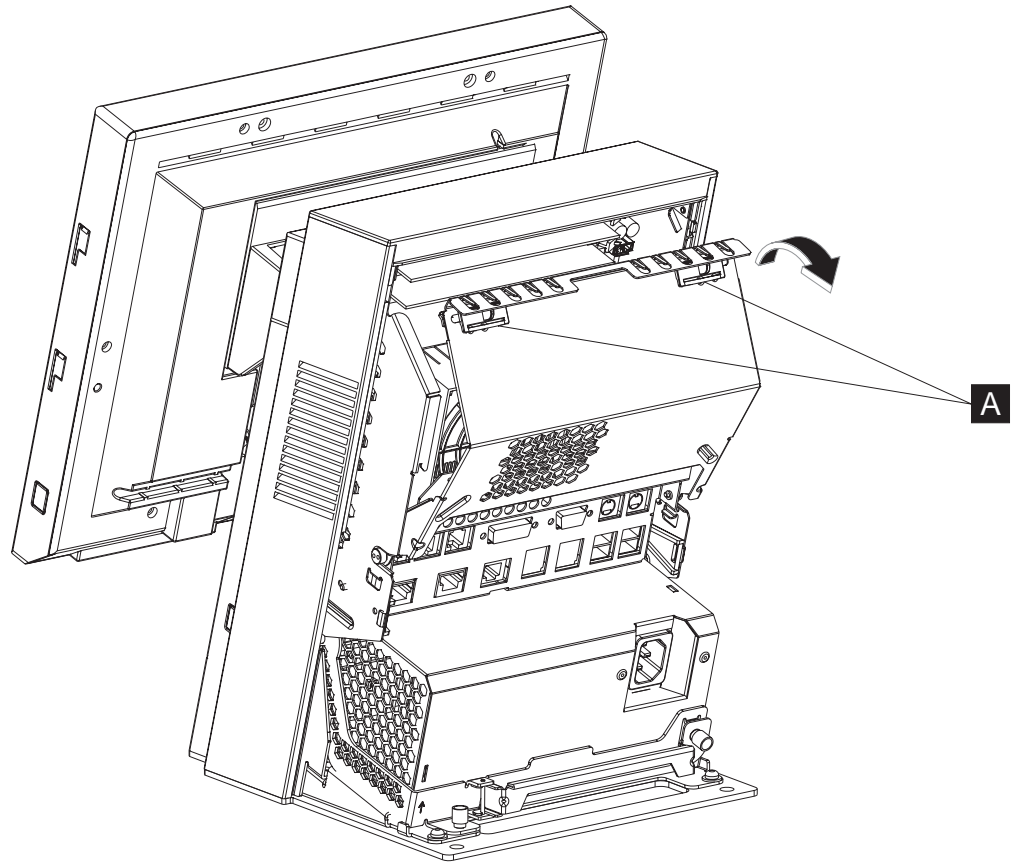

Figure 13. Opening the I/O tailgate cover
2. Unlatch the I/O tailgate cover by sliding the latches (**A** in Figure 13) toward the center.